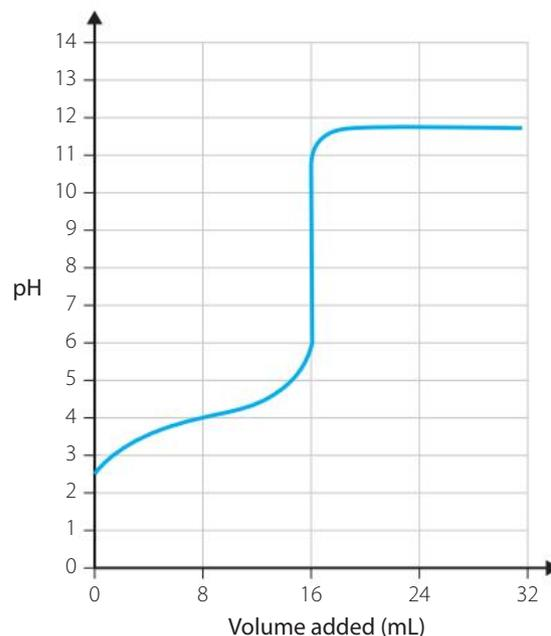

FIGURE 7.23 A pH curve for a titration
- Look at the pH curve for the titration in Figure 7.23.